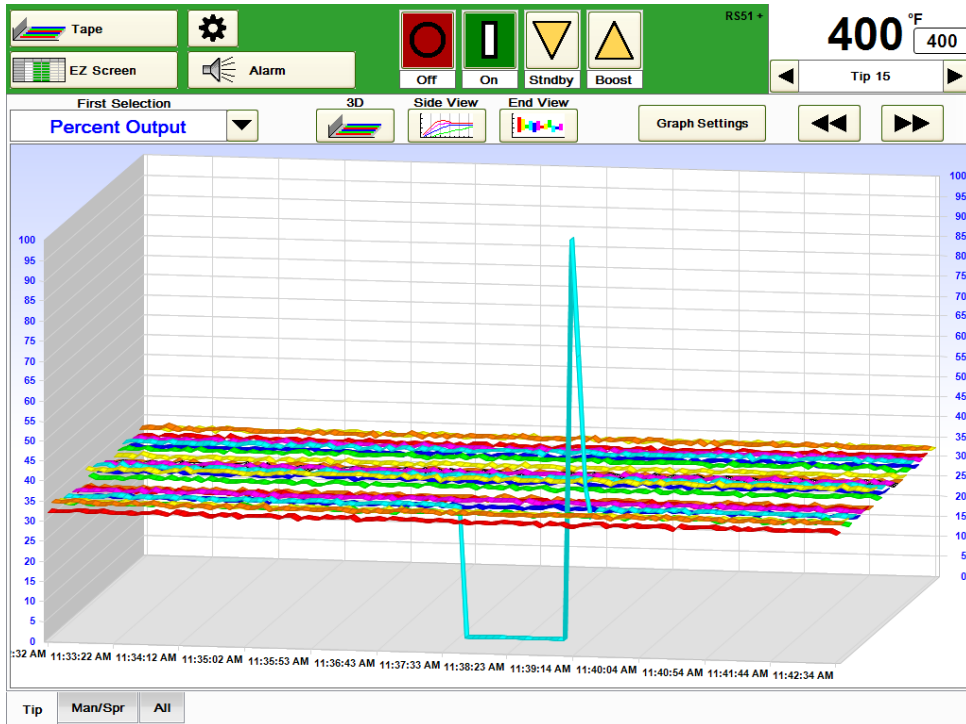

Figure 7i Tape Graph – 3D
Tape Graph: Each zone’s data is displayed as a colored ribbon showing changes over a period of time as shown in Figures 6i, 6j and 6k. This display can be useful in showing how different zones compare over time. Only one variable is plotted at a time. The choices include Actual Temperature, Deviation (from setpoint), Percent Output, Heater Current (amperage), Heater Voltage, Heater Resistance, Temperature Setpoint and Manual % Output Setpoint. In Figure 7i, 6j and 6k, Percent Output is plotted. To select a particular zone, choose it in the upper right corner of the screen. The selected zone’s data will be displayed as the black bar on the graph (Tip 15 in Figures 6i, 6j and 6k).
- a) 3D – shown in Figure 7i